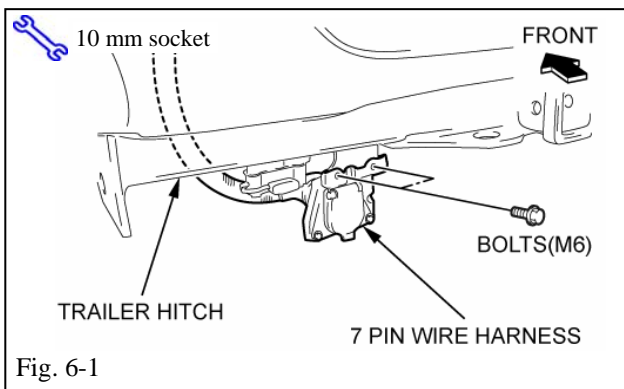

Fig. 6-1
(1) Secure the 7-pin wire harness to the trailer hitch mounting bracket using two (2) bolts (Fig. 6-1)